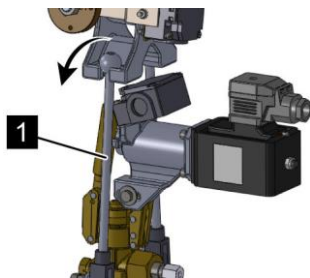

Fig. 144: Unhooking
5. ➔ Unhook the holding rods of the pilot cylinder (Fig. 144/1) on the weighing device (Fig. 144/arrow).